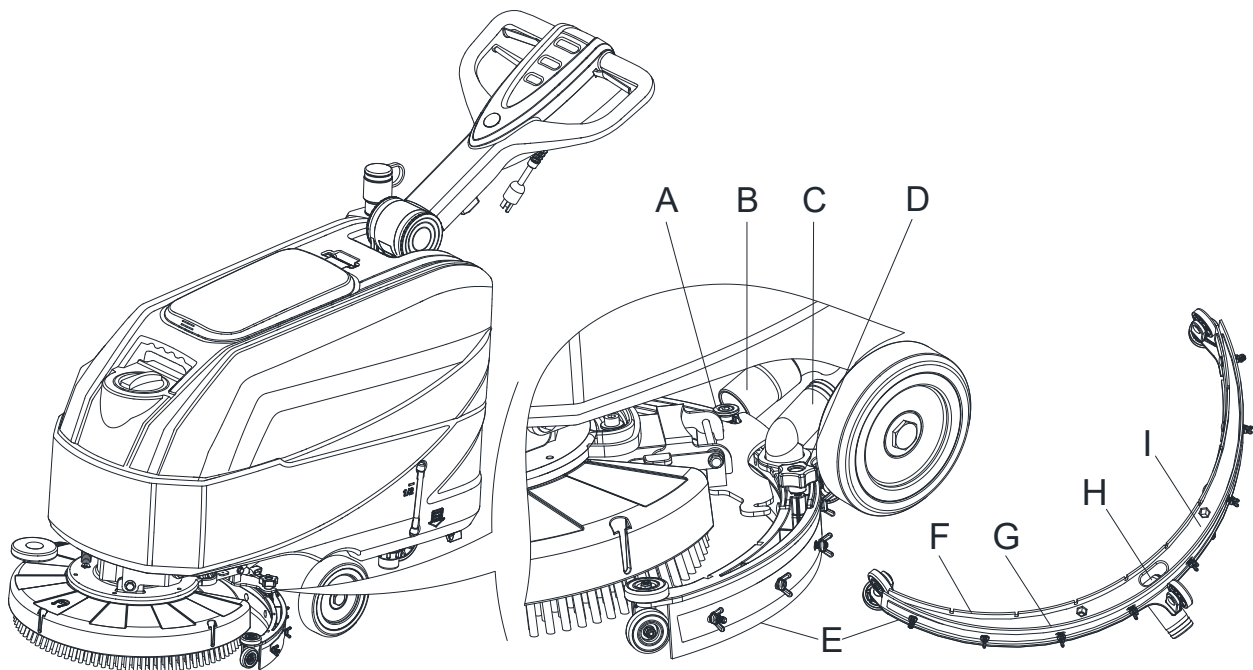
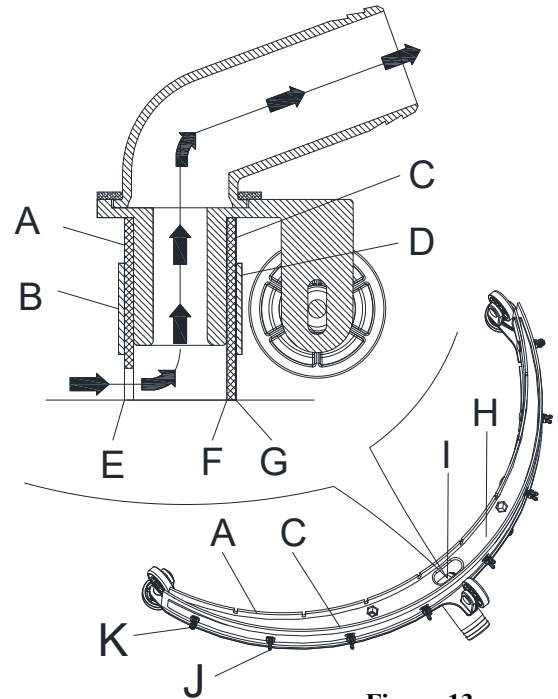

Figure 12
Figure 13
4. Disconnect the vacuum hose (B, Figure 12) from the squeegee connector (C).
5. Loosen the knobs (D) and remove the squeegee (E).
6. Clean the steel or the plastic squeegee (E, Figure 12). Clean the compartments (I) and the hole (H) especially. Check the front blade (F) and the rear blade (G) for integrity, cuts and tears; if necessary replace them (see the procedure in the following paragraph).
2. Check that the edges (E, Figure 13) of the front blade (A) and the edges (F) of the rear blade (C) lay down on the same level, along their length; if necessary adjust their height according to the following procedure:
- Loosen the all wing nuts (J) and adjust the front blade (A) and rear blade (C), then tighten the all wing nuts.
3. Check the front blade (A) and rear blade (C) for wear, cuts and tears; if necessary replace them according to the following procedure. Check that the front corner (E) or the rear corner (F) is not worn; if necessary, overturn the blade to replace the worn corner with an integral one. If the other corners are worn too, replace the blade according to the following procedure:
- Remove the all wing nuts (J) and the screw (K), remove the retaining strip (B), then replace/overturn the front blade (A). Assemble the blade in the reverse order of disassembly.
- Remove the all wing nuts (J) and the screw (K), remove the retaining strip (D), then replace/overturn the rear blade (C). Assemble the blade in the reverse order of disassembly. After the blade replacement (or overturning), assemble the squeegee as shown in the previous step.
4. Install the squeegee (E, Figure 12) and screw down the knobs (D, Figure 12), as shown in the previous paragraph.
5. Connect the vacuum hose (B, Figure 12) to the squeegee (C, Figure 12).